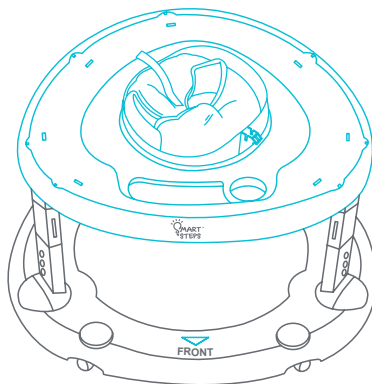

Fig. 1c
- Be sure to lineup the tabletop tray **logo** with the base that has the imprinted **“FRONT”** lettering (Fig. 1c).